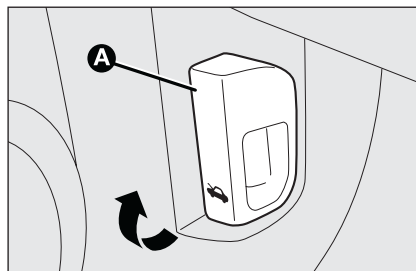

fig. 85
- ☐ pull lever **A**-fig. 85 in the direction indicated by the arrow;